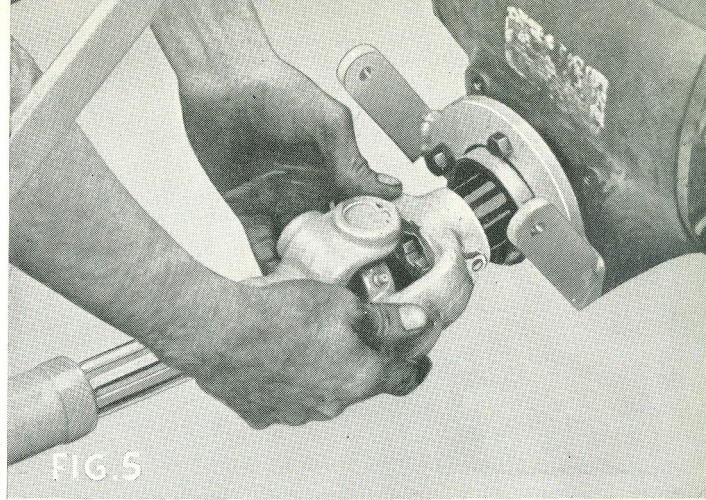
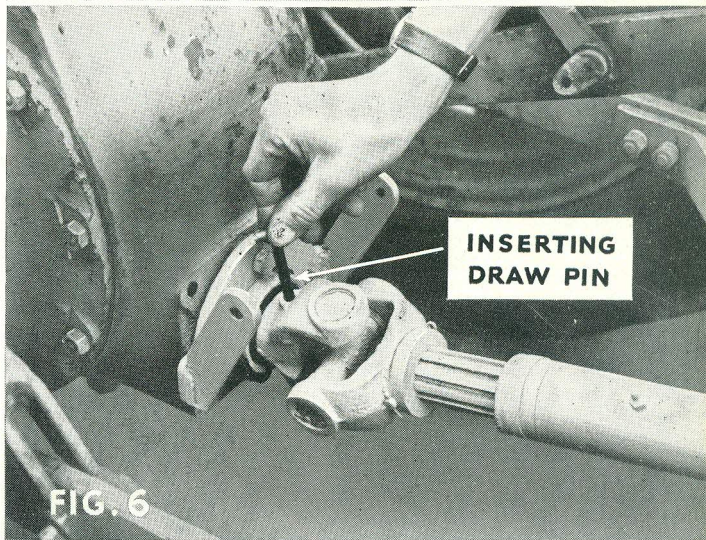

FIG. 5
FIG. 6
4. Back the tractor so that the mounting arms enter the lugs (Fig. 4) and slide the yoke on to the P.T.O. shaft. Make sure that the draw pin hole in the yoke lines up with the pin hole in the P.T.O. shaft (Fig. 5). Insert the draw pin and secure with clip pin (Fig. 6). Secure the mounting arms with the draw-pins and clips.